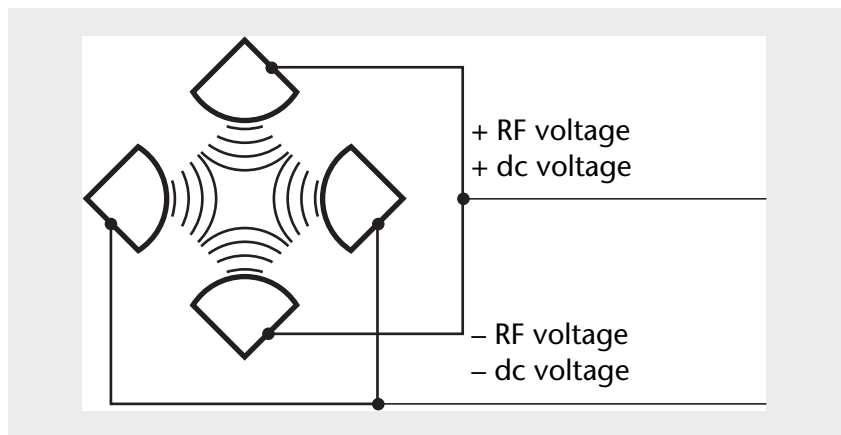

Fig. 17 Polarity of the RF and dc voltages applied to the rods of the mass analyzer
In a quadrupole rod assembly, rods diagonally opposite each other in the array are connected electrically, so the four rods can be considered to be two pairs of two rods each. Ac and dc voltages are applied to the rods, and these voltages are ramped during the scan. Voltages of the same magnitude and sign are applied within the rods of each pair. Voltages equal in magnitude but opposite in sign (dc) and phase (RF) are applied to the different rod pairs. See Figure 17.